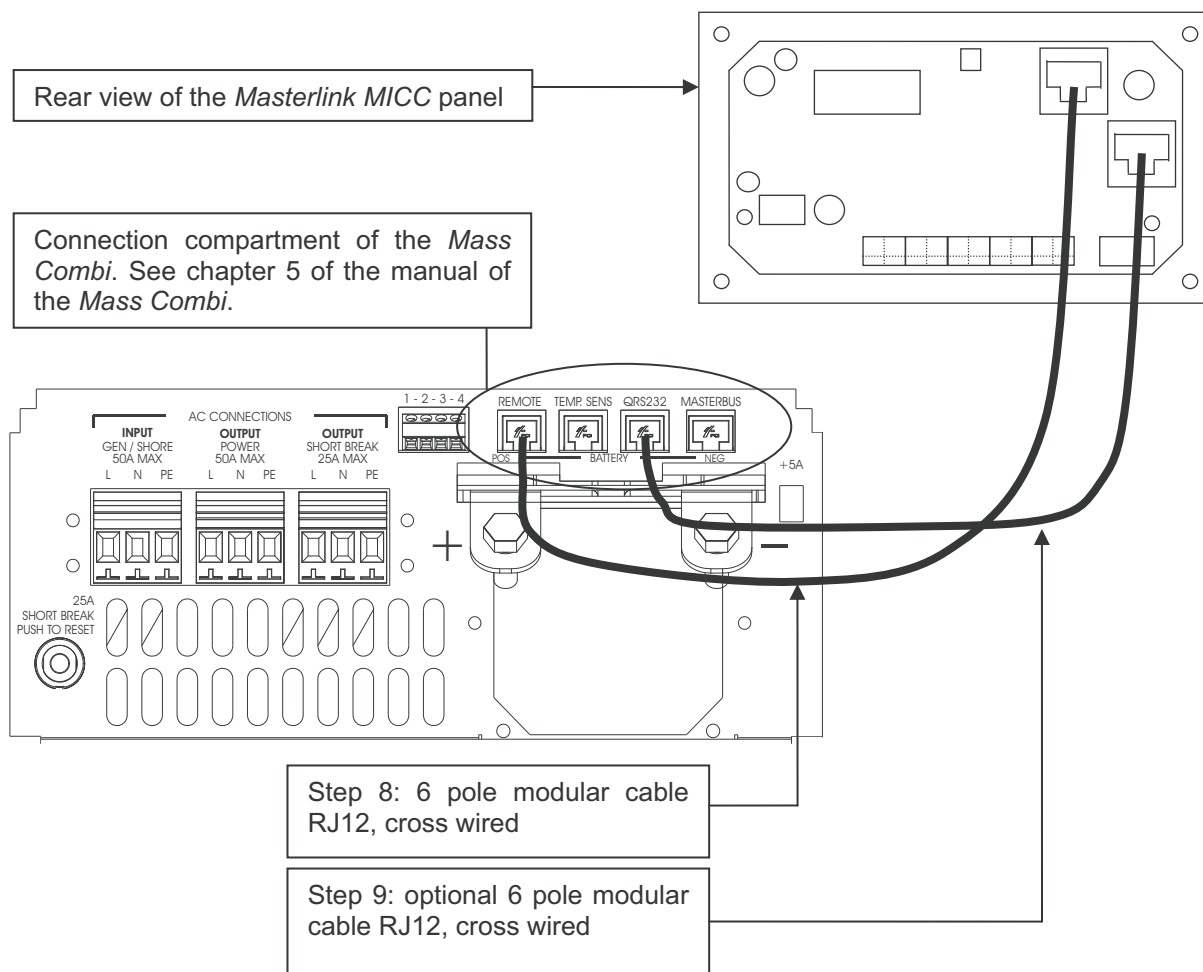

Figure 4: Connection between the Masterlink MICC panel and the Mass Combi
- **Mass Combi:** You must connect the RJ12 connector to the "QRS-232" input (Data bus connections) see figure 4.
- **Option for the Mass Combi:** Connect the RJ12 connector to the "REMOTE" input (Data bus connections) see fig. 4.